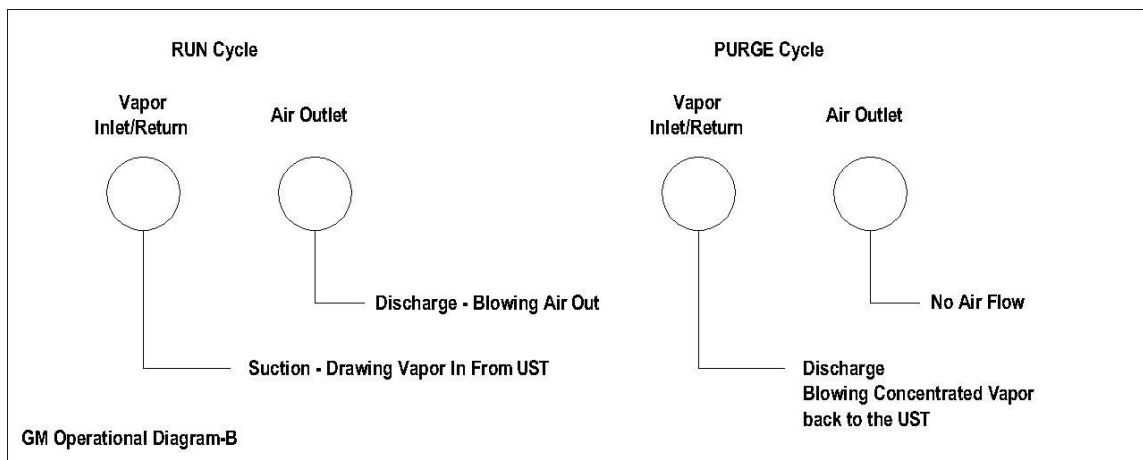

Figure 15: *Green Machine* Operation Diagram
2. During the 60-second RUN mode: **see Figure 15.**
3. During the 60-second PURGE cycle: **see Figure 15.**